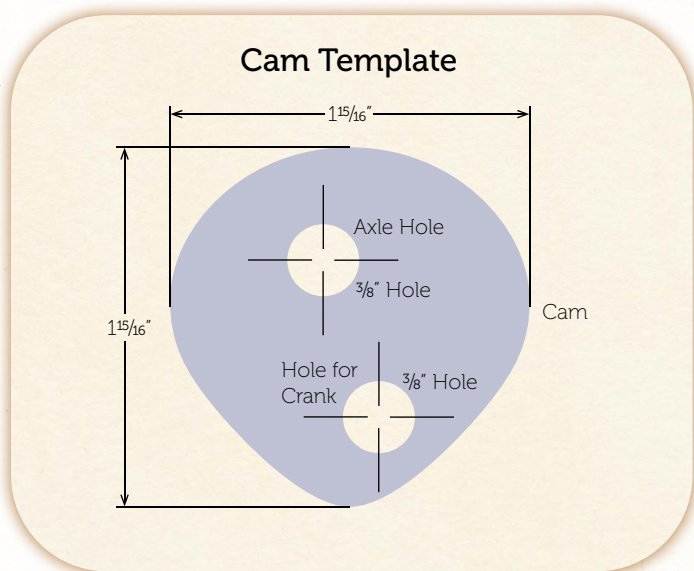

Figure 7.5: The cam template
Now that you've assembled the cam follower, it's time to assemble the cam using the diagram in Figure 7.5 as a guide.
1. Use a pencil to draw the cam outline depicted in Figure 7.5 on a 2-inch by 2-inch by $\frac{3}{8}$ -inch piece of plywood or hardboard. Then, cut out the cam using the jig saw or coping saw.
4. Again take a look at Figure 7.5. Drill the axle hole and the crank hole in the cam as shown in the template.